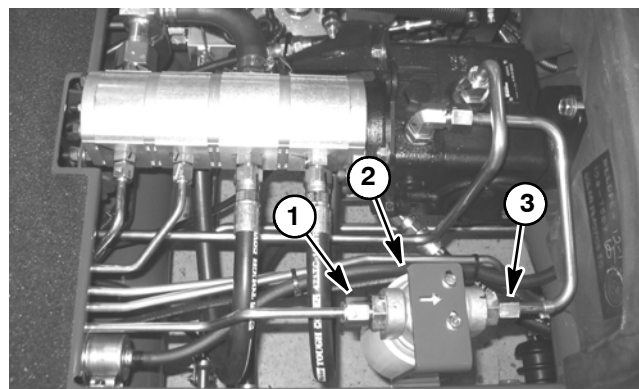

Figure 29
A. On machine with serial number below 313000000, thoroughly clean ends of hydraulic tubes that connect to the oil filter (there is no test port in hydraulic tube between the oil filter and piston pump on these machines as shown in Fig. 29). Disconnect hydraulic tubes from oil filter adapter. Remove two (2) flange head screws that secure oil filter adapter to frame and remove oil filter and adapter assembly from machine. Install tee fitting with 1000 PSI (70 bar) pressure gauge in place of the removed hydraulic filter assembly.